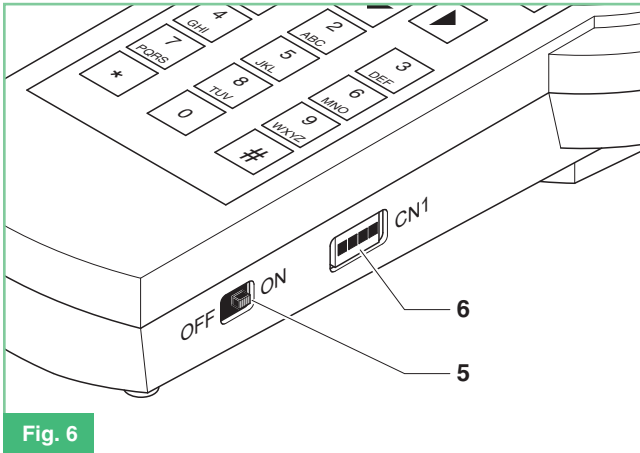

Fig. 6
5. ON-OFF switch (figure 6).
6. Connector CN1 for connecting the serial programming cable (figure 6).
1. Switch off the hand-held programmer with the ON-OFF button (figure 6).
If connection fails, simply switch the programmer off and back on again with the ON/OFF switch (fig. 6), to re-start automatic recognition of the device.